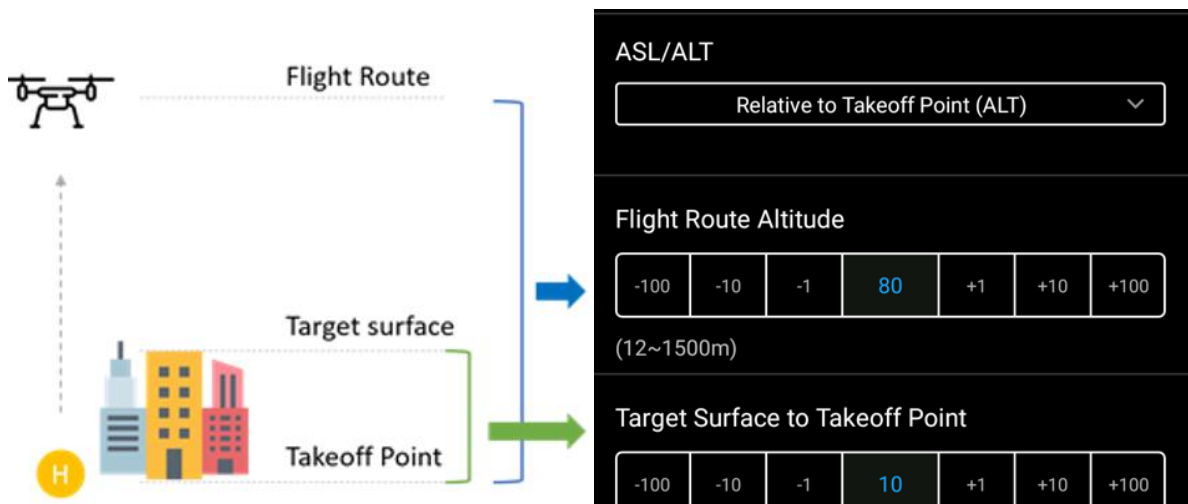
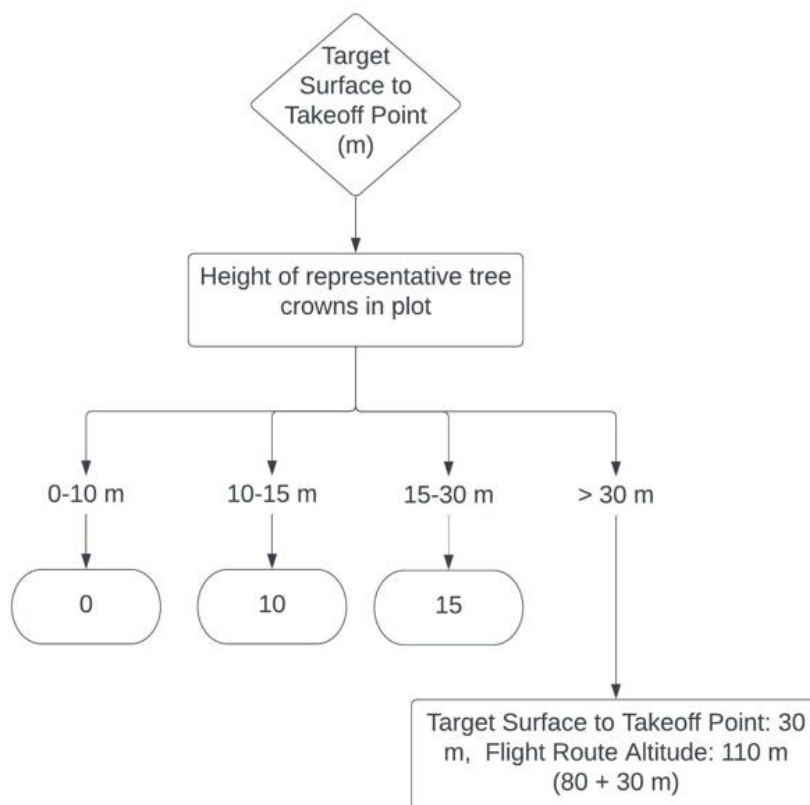

Figure 21: Target Surface to Takeoff Point must be set to ensure overlap calculations are applied to top of canopies. (Image source: DJI).
Figure 22: Consider the height of vegetation in the plot when setting Target Surface to Takeoff Point.
- g. **Target Surface to Takeoff Point**: *Vegetation height and terrain complexity, as well as difference in terrain between plot and the drone takeoff area must be considered when setting a suitable target surface (Figure 21). This is essential to ensure that the overlap calculations are applied appropriately. When the terrain to map and the takeoff point differ in elevation, set this to the distance from the takeoff point to the target surface. **Note:** Flight settings in tall forests (> 30 m) and sites with steep terrain are yet to be tested (see To do list).*
- In forested environments, set this to the height of the representative crowns in the plot. See flowchart below (Figure 21 and Figure 22).